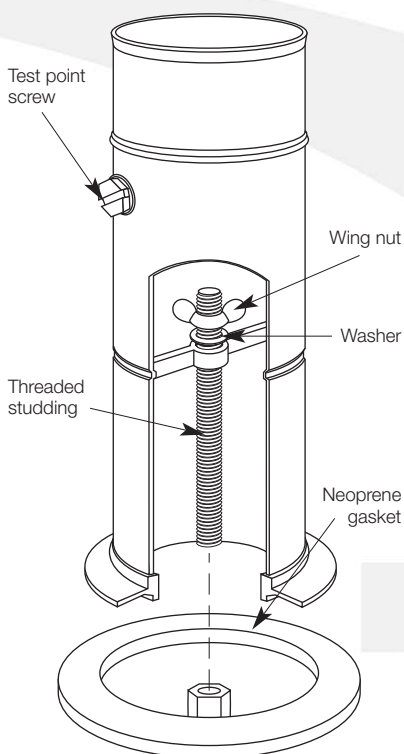

Figure 9-5: Boiler flue connector
If required, it is possible to use the white painted single-wall straight flue extensions, adjustable extensions and elbows from the Grant 'Orange' system for the internal section of the flue system, see Fig 9-5. These components can be fitted between the boiler connector and flue adaptor. The flue adaptor, to which the external twin-wall 'Green' flue components are connected, can therefore be situated just before the flue system passes through the wall.
4. Fit the washer and wing nut provided onto end of threaded studding and secure the connector in position by tightening down on the wing nut - as shown in Figure 9-5.